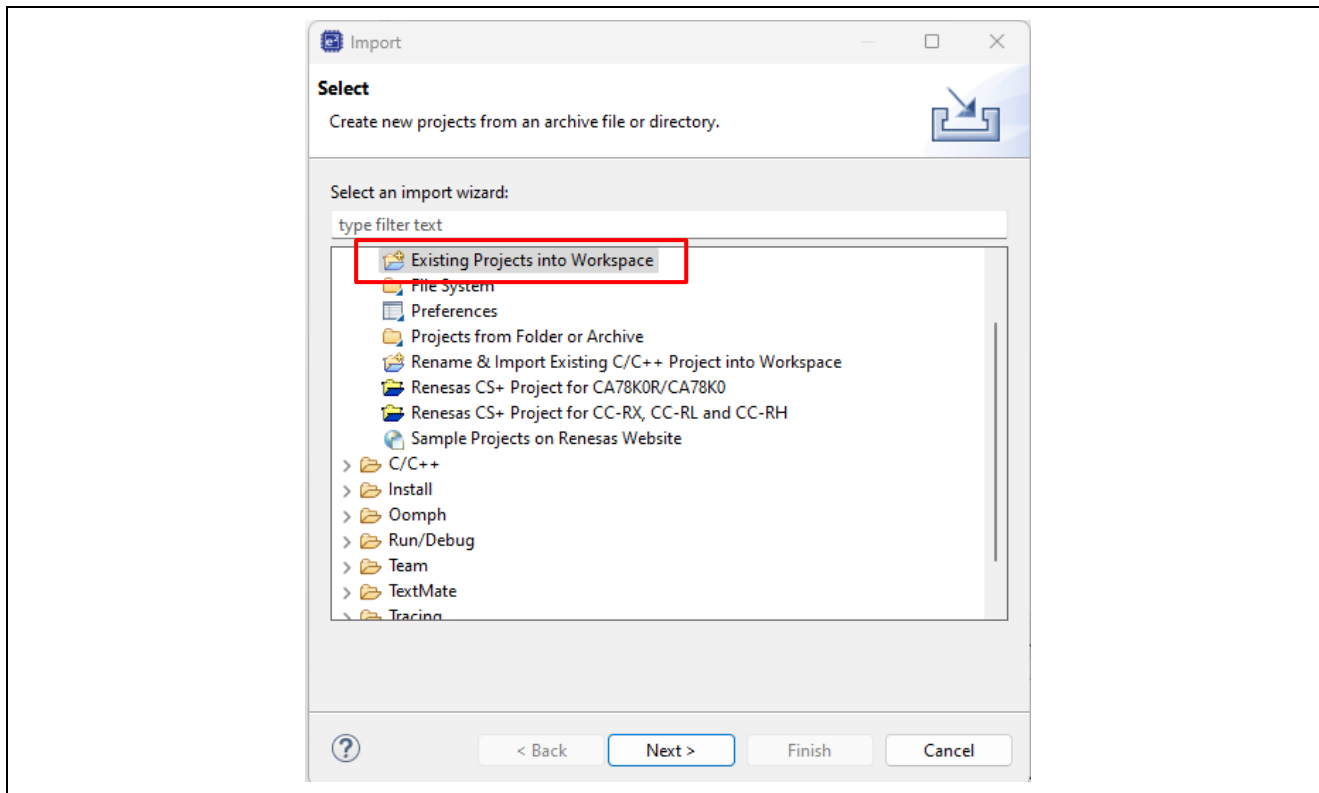

Figure 56. Import the Initial Application
2. Follow Section 4.7 to exam the **Builder**. The configuration should look like Figure 56.